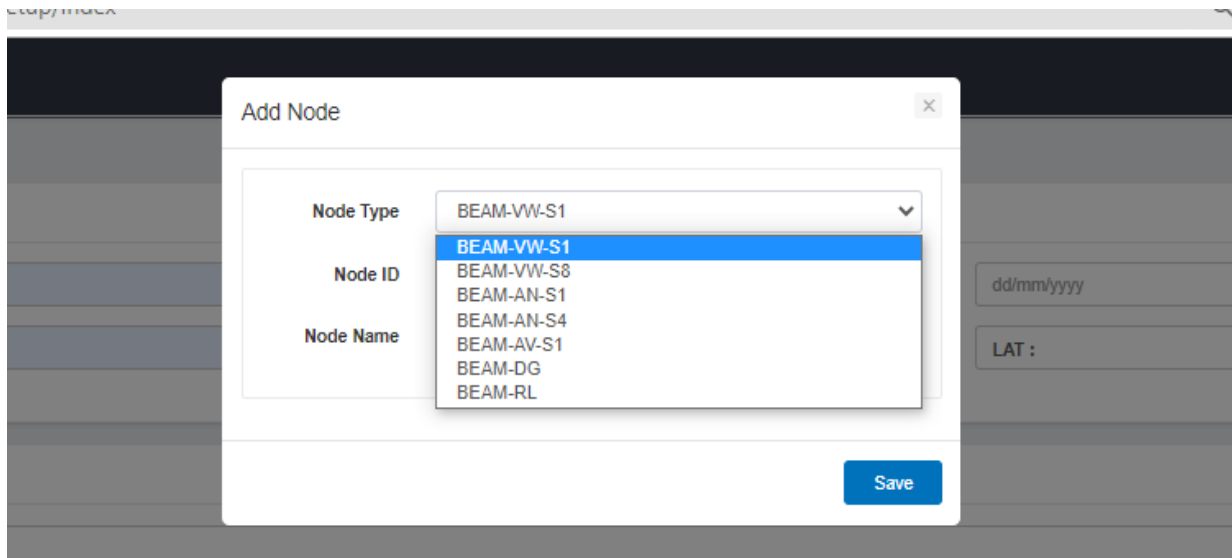

Figure 3-16
2. The window that open will require following information (Refer to figure 3-16):
NOTE: In case you are connecting model EAN-95MW wireless tilt meter, select "Beam-AV-S1" (refer to the drop down menu in figure 3-16)